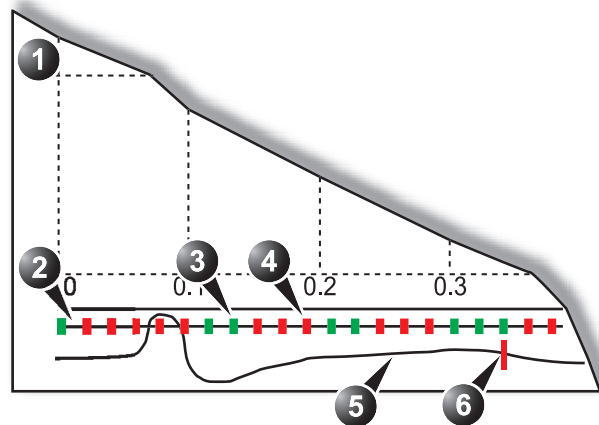

Figure 7-2: Frame disabling
1. Trackball to the frame marker of the frame to disable beneath the *Analysis window* (see Figure 7-2).
2. Trackball to the frame marker of the frame of interest in one of the heart cycles (see Figure 7-2).